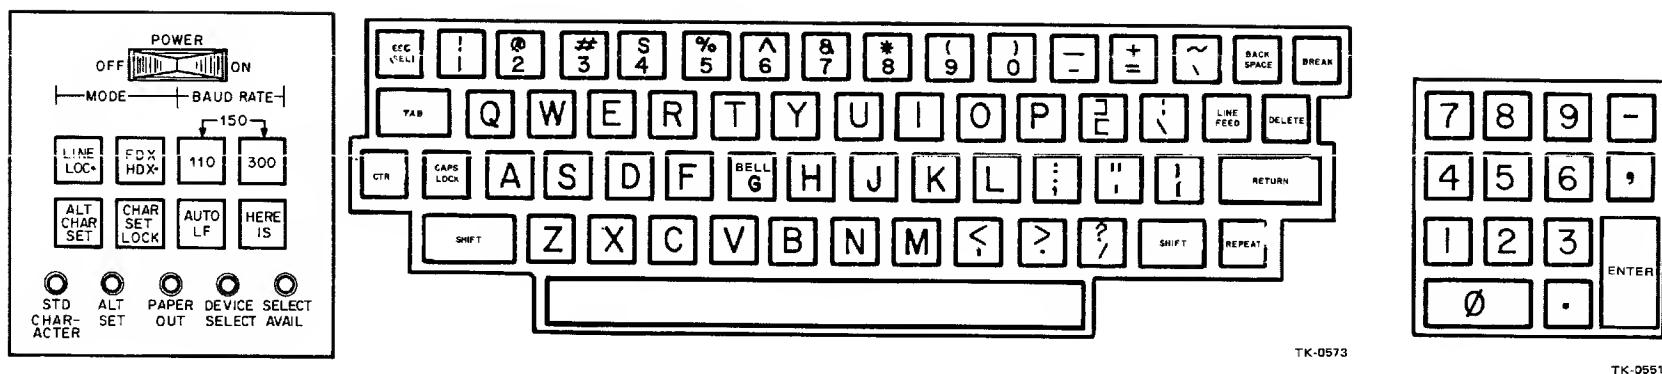

Figure 5-2 LA36 Keyboard
5.2.3.1 Keyboard Controls – The following is a list of the keyboard controls (Figure 5-2).
5.2.4.1 Turn-On Procedure – These steps are all that may be required to place your LA36 on-line (Figure 5-2):